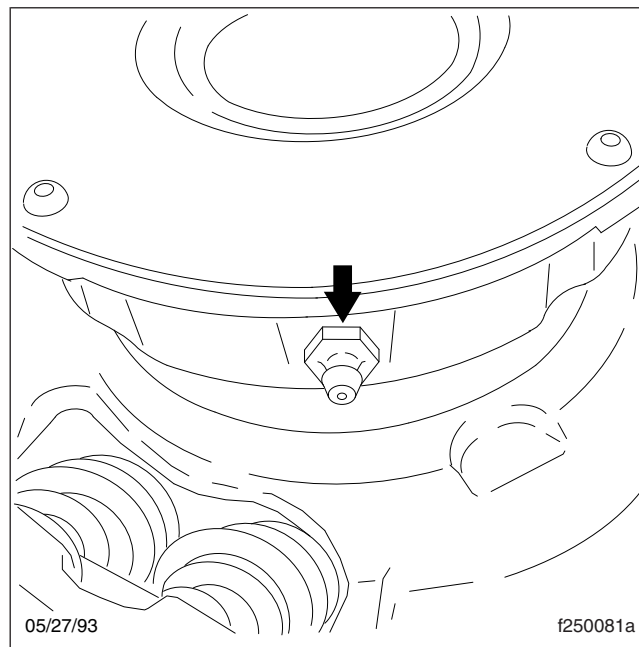

Fig. 2, Release Bearing Grease Fitting
3. Wipe any dirt away from the grease fitting. See Fig. 2. Using a pressure-type grease gun equipped with the recommended grease, lubricate the bearing until excess grease purges from the rear of the release bearing (toward the transmission).
3. Wipe any dirt from the grease fitting. See Fig. 2. Using a pressure-type grease gun equipped with recommended grease, lubricate the bearing until excess grease purges from the rear of the release bearing (toward the transmission).